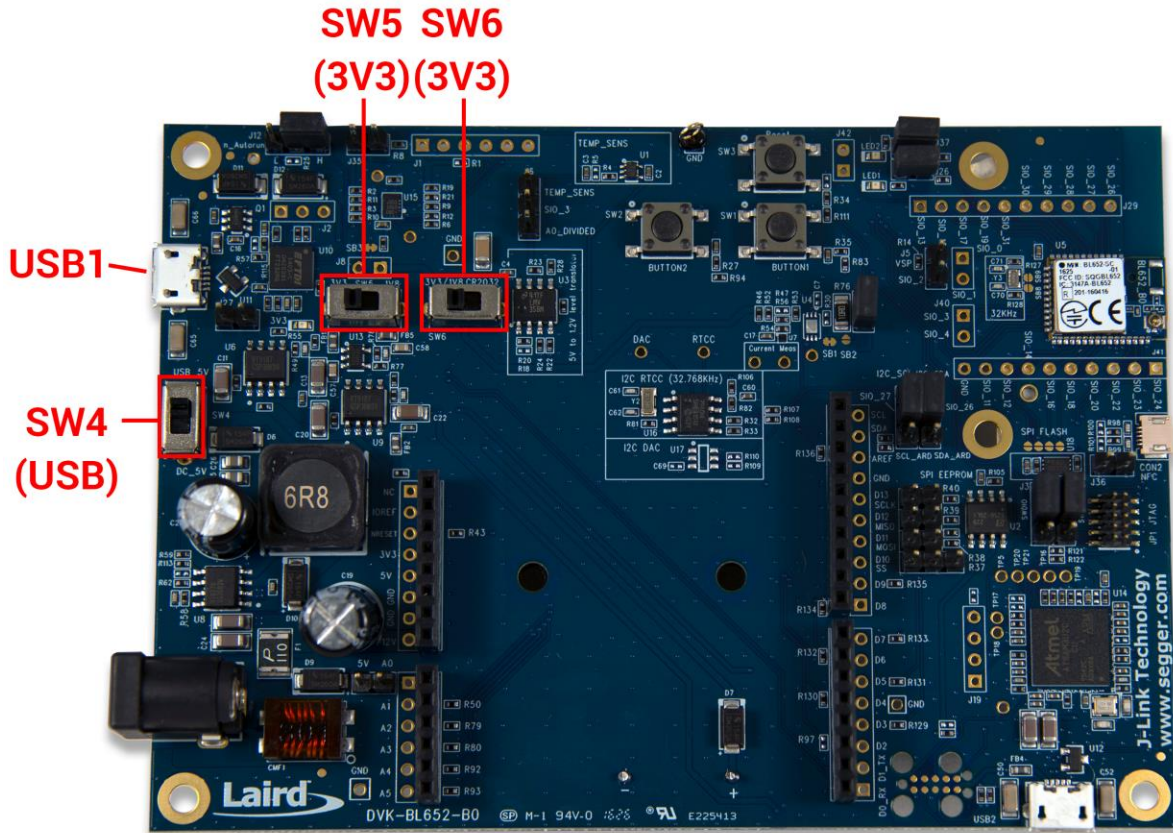

Figure 1: BL652 development board
4. If not already connected, attach the module to your PC's serial port. If you are using the DVK-BL652, ensure that you are connected to the board's USB1 connection (see Figure 1).